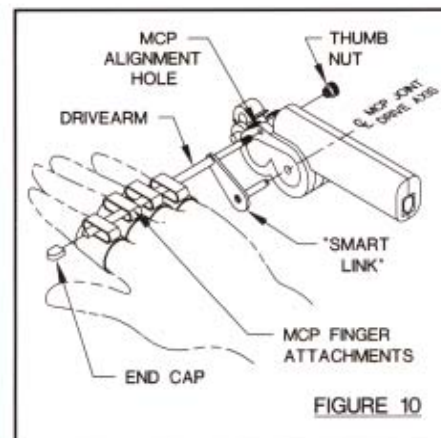

FIGURE 10
- 1 Insert drivearm with "Smart Link" into MCP alignment hole at MCP joint axis and secure with plastic thumb nut see **Figure 10**.
- 2 Slip MCP finger attachments onto drivearm and capture with end cap see **Figure 10**.
- 1 Remove "Smart Link" from MCP drivearm see **Figure 10**.